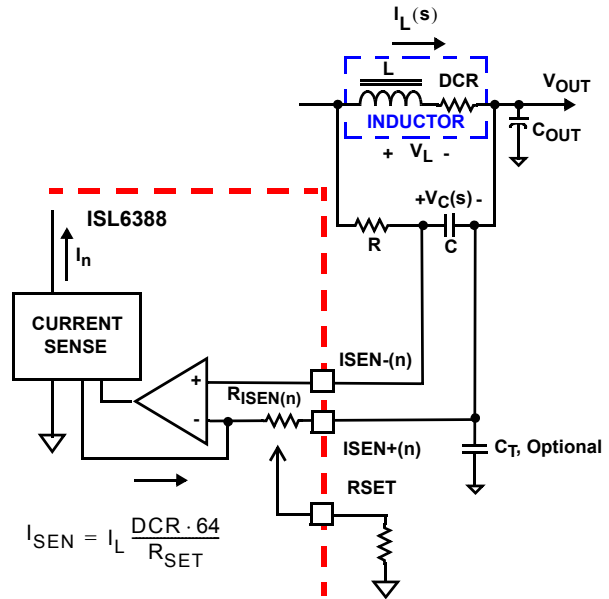

FIGURE 4. DCR SENSING CONFIGURATION
The internal circuitry, shown in Figures 4 and 5, represents one channel of the VR output, respectively. The ISEN $\pm$  circuitry is repeated for each channel, but may not be active depending on the status of the PWM[6:2] pins, as described in "PWM and PSI# Operation" on page 17. The input bias current of the current sensing amplifier is typically 25nA; less than 7k $\Omega$  input impedance is preferred to minimized the offset error, i.e., a larger C value as needed.
An inductor's winding is characteristic of a distributed resistance, as measured by the Direct Current Resistance (DCR) parameter. Consider the inductor DCR as a separate lumped quantity, as shown in Figure 4. The channel-current  $I_L$ , flowing through the inductor, will also pass through the DCR. Equation 4 shows the s-domain equivalent voltage across the inductor  $V_L$ .
A simple R-C network across the inductor extracts the DCR voltage, as shown in Figure 4.
The current sense circuitry operates in a very similar manner for negative current feedback, where inductor current is flowing from the output of the regulator to the PHASE node, opposite of flow pictured in Figures 4 and 5. However, the range of proper operation with negative current sensing has a limitation. The worst-case peak-to-peak inductor ripple current should be kept less than 80% of the OCP trip point (~80µA). Care should be taken to avoid operation with negative current feedback exceeding this threshold, as this may lead to momentary loss of current balance between phases and disruption of normal circuit operation. Note that the negative current can especially affect coupled inductor designs, where the effective inductance is the leakage between the two channels, much lower than the specified mutual inductance (LM) and self inductance (L). To limit the impact, a higher RSET value (1.5x to 2x) is often used to reduce the effective negative current seen by the controller in coupled inductor designs. Refer to Intersil's application note, AN1268 for detailed coupled inductor discussion and ripple current calculation.